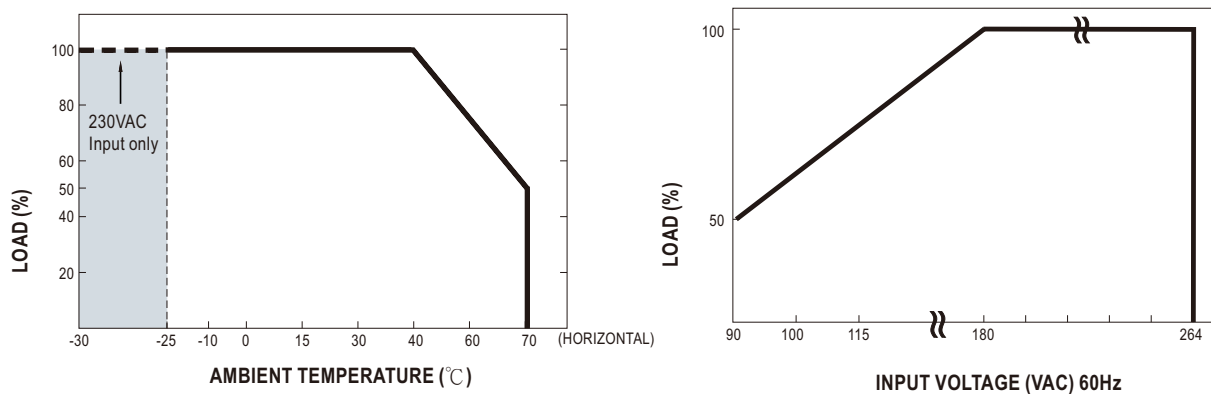

Figure 4-2 Output de-rating curves
- ⦿ When DRP-3200/DBR-3200 units are operating at a lower AC input voltage, these units will de-rate their output current automatically to protect themselves, shown as Figure 4-2.